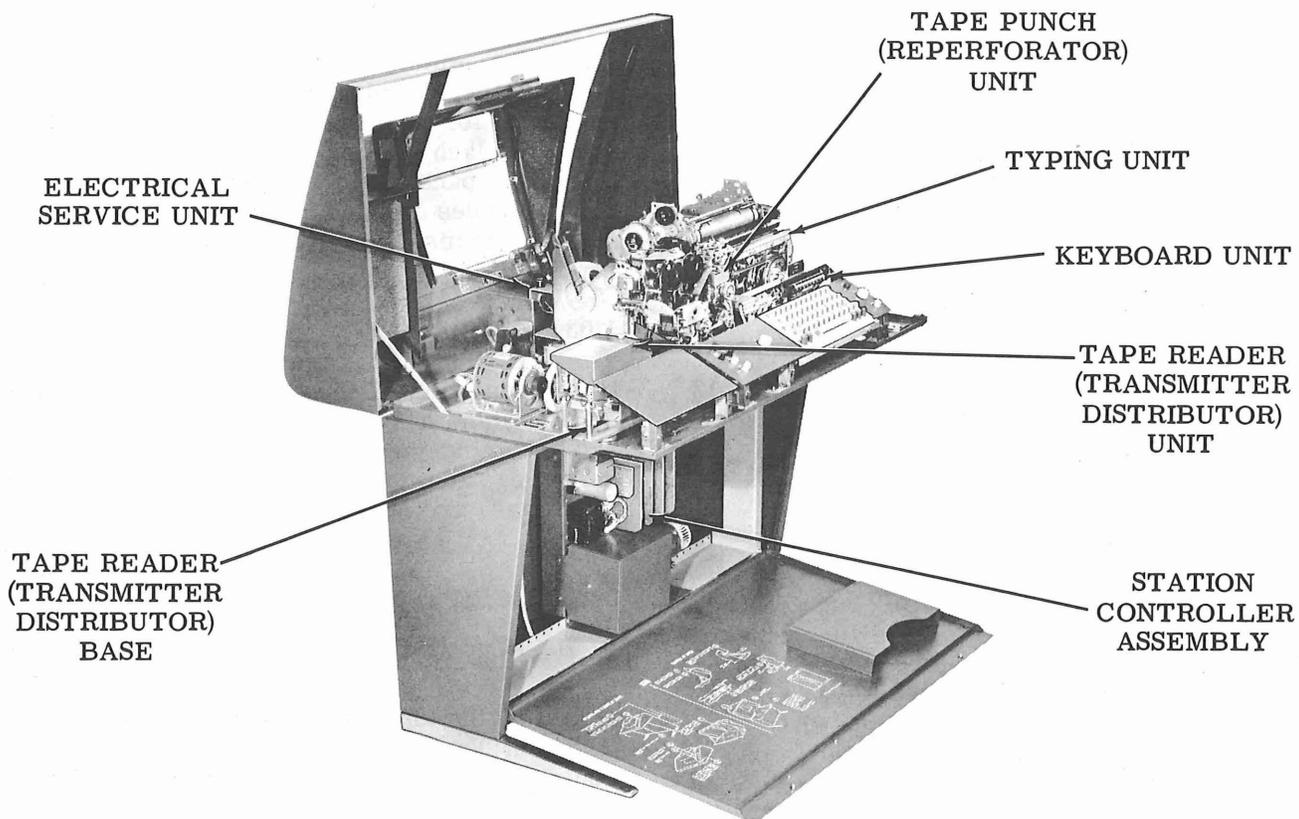

Figure 1 - Automatic Send-Receive Set (Covers Open)
2.02 A sprocket feed, Automatic Send-Receive Set is shown in Figure 1. The cabinet provides an enclosure for all units including a 130-type subset or a TP198420 data set coupler for a 103-series data set. Neither the subset nor the data set coupler (normally mounted in the pedestal) is shown in the figure.